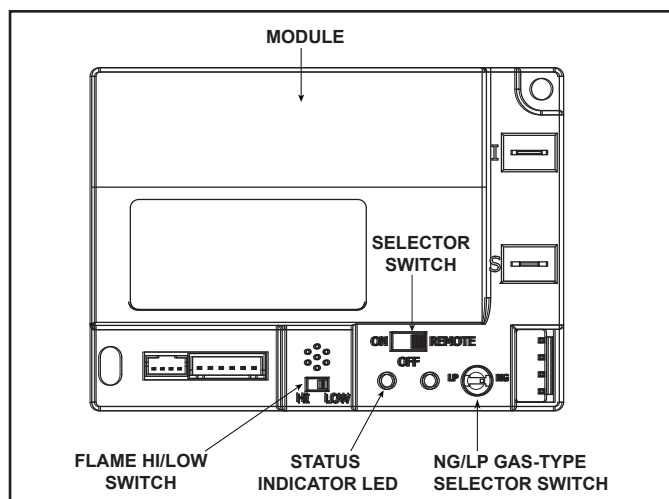

Figure 8.5 - Control Module
1. The control module has an ON/OFF/REMOTE selector switch that must be set. See Figure 8.5.
2. If using a wired wall switch with the module in REMOTE mode, the flame output can be adjusted with the HI/LO selector switch on the module. See Figure 8.5. Note that the flame HI/LO selector switch will become inactive once a remote control (RC300) is programmed to the control module. Note that the control module will always ignite the fireplace on HI and remain so for the initial 10 seconds of operation. If the HI/LO is switched to the LO position, the flame output will automatically drop to the lowest setting after the flame has been established for 10 sec. After this 10 second period, the flame can be adjusted from HI to LO with the switch.
- Locate the module selector switch. (See Figure 8.5).
- Wait five (5) minutes to allow possible accumulated gas to clear.